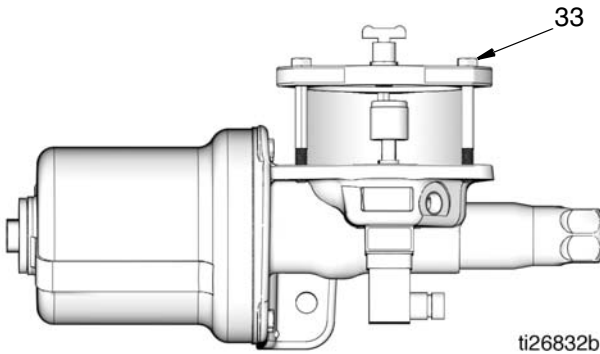

FIG. 55
- c. Install 4 new bolts. Hand tighten the bolts (33) evenly, each one a little at a time in a diagonal pattern. Then torque diagonally to 10-13 ft. lbs. (13.5-17.6 N•m). See FIG. 55.